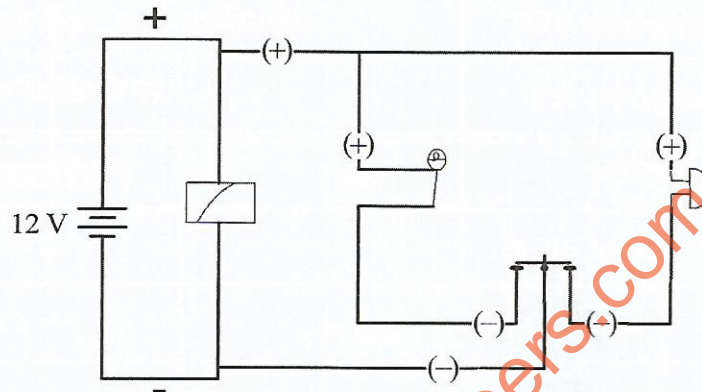

Figure 4
- (a) (i) Connect the components provided as shown in the circuit in **Figure 4**. (5 marks)
- (b) State the function of each component in the circuit in **Figure 4**. (2 marks)
- (a) Using the most appropriate tools, take and record the measurements of the aircraft components painted red, white, green and blue and complete **Table (V)**.